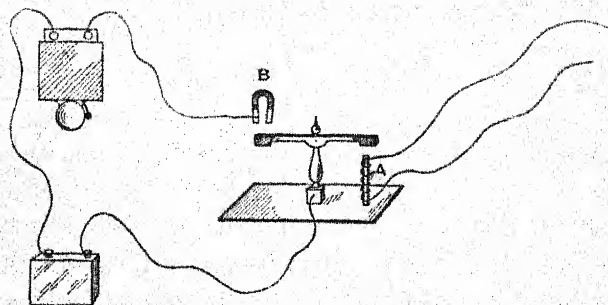

Fig. 20
Here is a drawing of the general arrangement of the apparatus (fig. 20). You see the two wires leading from the electro-magnet (A). These go to the distant telephone transmitter.